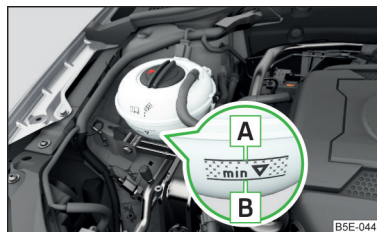

Fig. 311
Check the coolant level - the coolant level must be between the marks **A** and **B** » Fig. 311. If the coolant level is below the mark **B**, refill the coolant.
The **specification** of the coolant is shown on the coolant expansion reservoir » Fig. 311.
- Do not fill the coolant above the mark A » Fig. 311. When it heats up, the coolant could press out of the cooling system - there is a risk of damage to the engine parts.